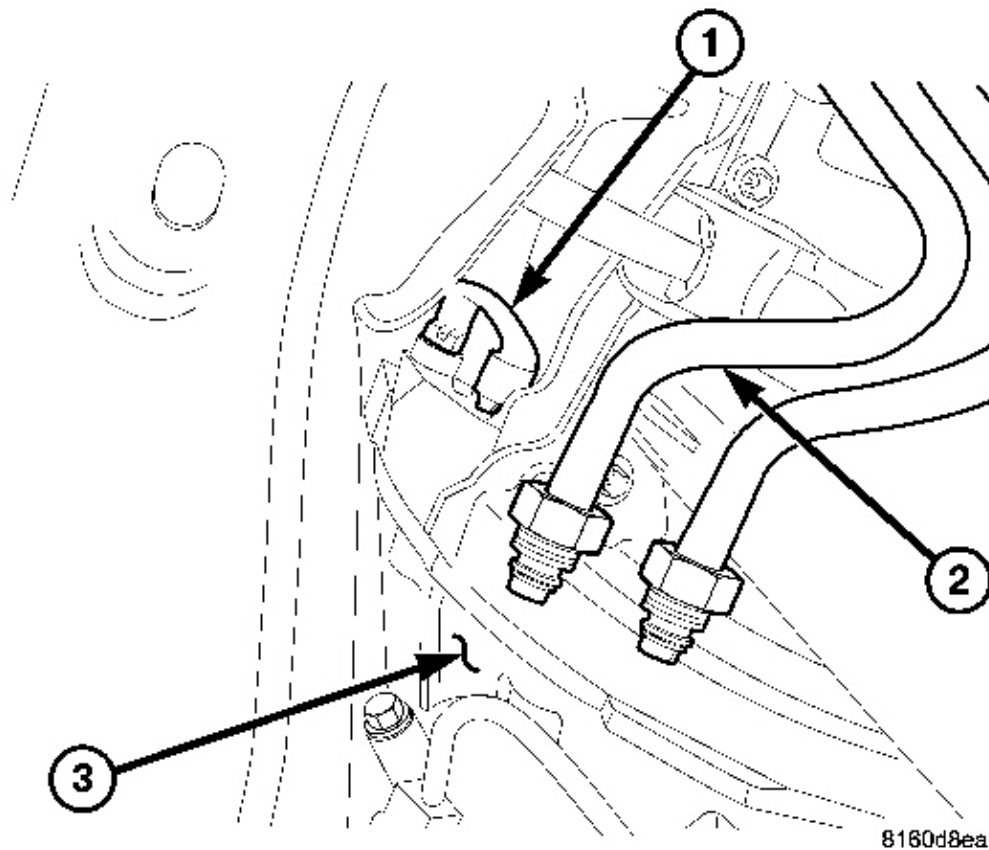

Fig. 310: #9102 Crankshaft Lock, Transmission Cooler Lines & Transmission
6. Install special tool #9102 flywheel locking tool. See **Fig. 310**.